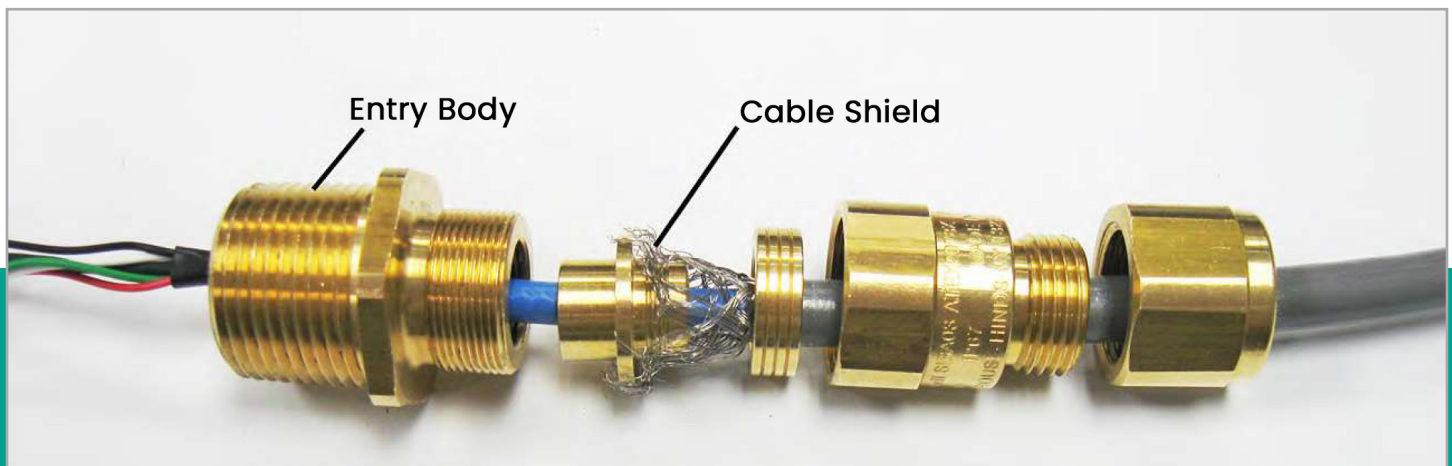

Figure 90: Proper cable gland assembly (Panametrics p/n 419-217)
- d. Fray the braided shield and spread evenly around the cone as shown in *Figure 90* below. Compress the ring to lock the shield.
The cable shield must be terminated in the cable gland as shown in *Figure 90* below.
- d. Fray the braided shield and spread evenly around the cone as shown in Figure 90 on page 71. Compress the ring to lock the shield.
The cable shield must be terminated in the cable gland as shown in *Figure 90* on *page 71*.